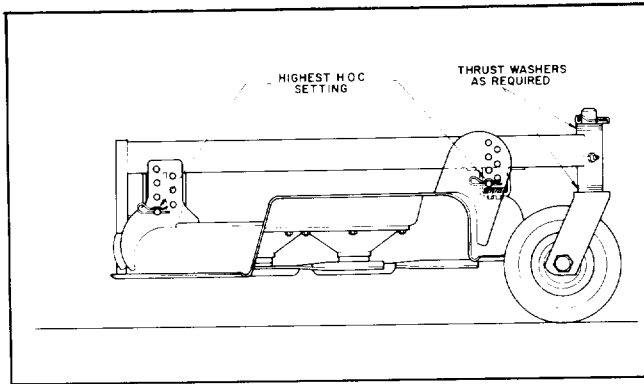

Figure 27
2. Check to make sure front height-of-cut pins are resting properly on frame cushions (Fig. 27). If pins are not resting properly, place a shim or shims under cushion to raise it for proper alignment.
3. Raise height-of-cut to 4 in. (102 mm) position (Fig. 27); refer to Adjusting Height-Of-Cut, page 9.
- B. Transfer one thrust washer from top side of castor shaft to lower side, install castor assembly and compare blade height of all blades; refer to items 3 through 6. Continue adding thrust washers if height still does not meet requirements.
- C. If cutting unit is operated at 2 to 4 in. (51 to 102 mm) height-of-cut, lower the high side of cutting unit. Remove lynch pin of castor at high end of unit and remove castor assembly (Fig. 27).
- D. Transfer one thrust washer from lower side of castor shaft to top side, install assembly and compare blade height of all blades; refer to items 3 through 6. Repeat procedure if height still does not meet requirements.